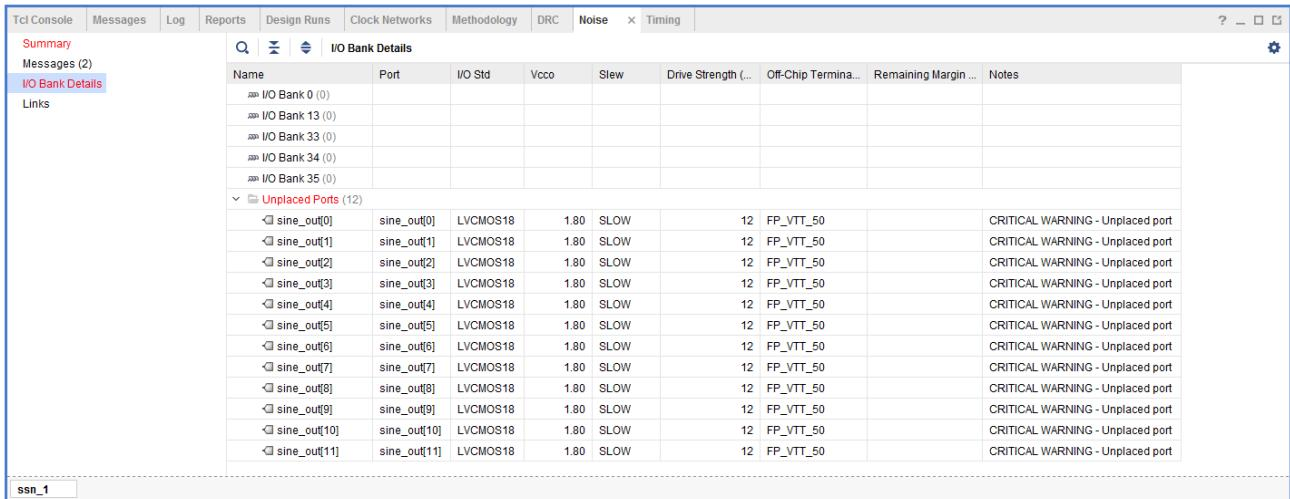

Figure 6.15: Noise Report
- **Report Noise:** Performs an SSN analysis of output and bidirectional pins in the design. This report is looking a gauge the number of pins, I/O standard, and drive strength on a bank-by-bank basis, see Figure 6.15. Banks that are exceed, what is recommended, will be flagged in the Summary tab. SSN analysis can only be done on output and bidirectional ports.